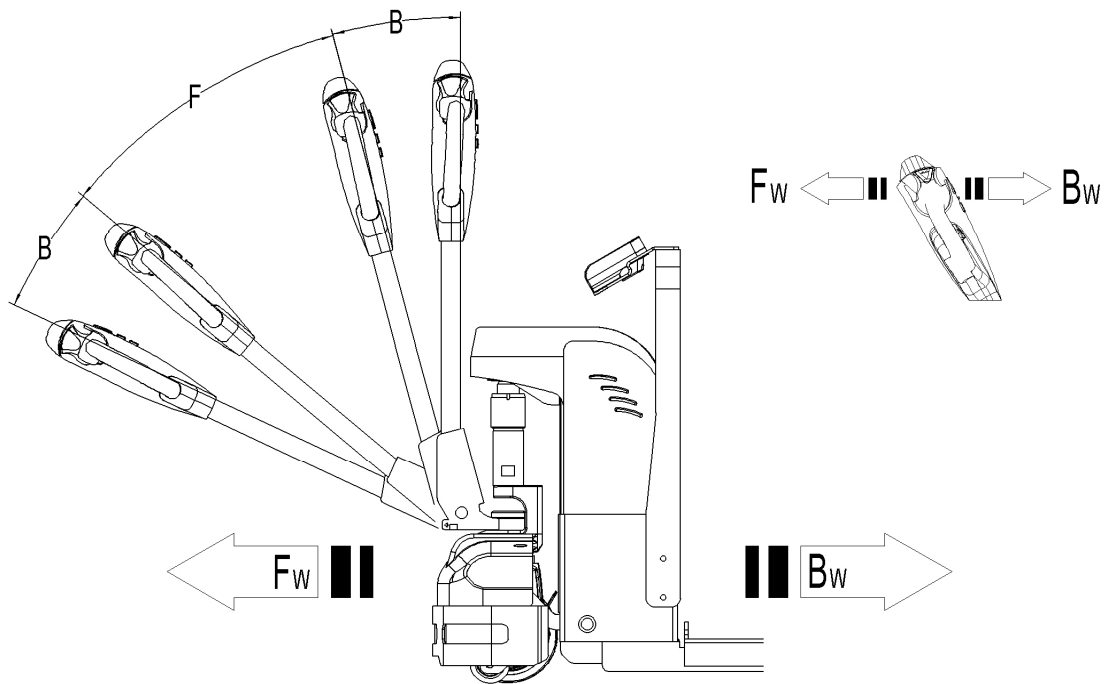

Fig. 9: Operating direction
After starting the truck by pulling the combined emergency switch (3) or insert the key and rotate 90° clockwise, move the tiller to the operating zone ('F', fig.9).
Turn the accelerator button(14) to the desired direction forward 'Fw.' or backwards 'Bw.'(fig. 9).